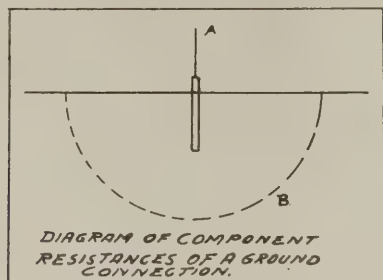

Fig. 1
A ground may be considered as a metallic conductor in a hemispherical mass of earth, as shown in Fig. 1, the radius of which will depend upon soil conditions. Assume that the outside or boundary of this hemisphere is earth at zero resistance and zero potential. The resistance of the ground connection is the resistance offered to the flow of current from A to B. This resistance consists of four parts, viz.: (1) that of the wire or connection to the ground electrode; (2) the resistance of the electrode; (3) the contact resistance between the electrode and earth, and (4) the resistance of the soil in the immediate vicinity. Unless a long wire is used and unless the electrode is of great length and small cross section, the first two parts of the total resistance will be negligible. Furthermore, the contact resistance between metal and earth, as determined by tests made at the Bureau of Standards, can also be neglected as far as practical purposes are concerned—a fact which has not been generally appreciated. The principal part of the resistance of a ground connection is in the soil surrounding the electrode, and it is for this reason that the resistance of a ground connection varies so greatly for different soils.